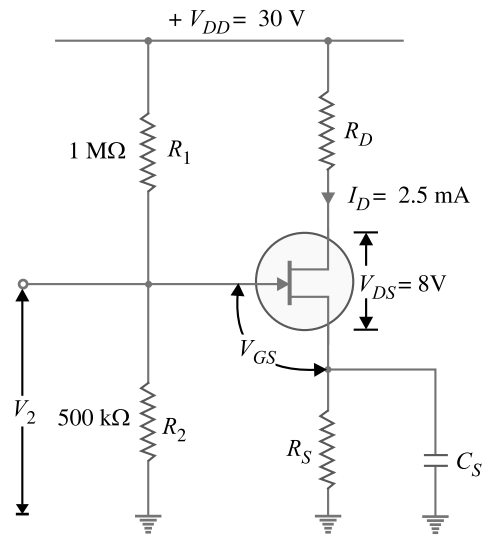

Fig. 17.33
**Solution.** Fig. 17.33 shows the conditions of the problem.